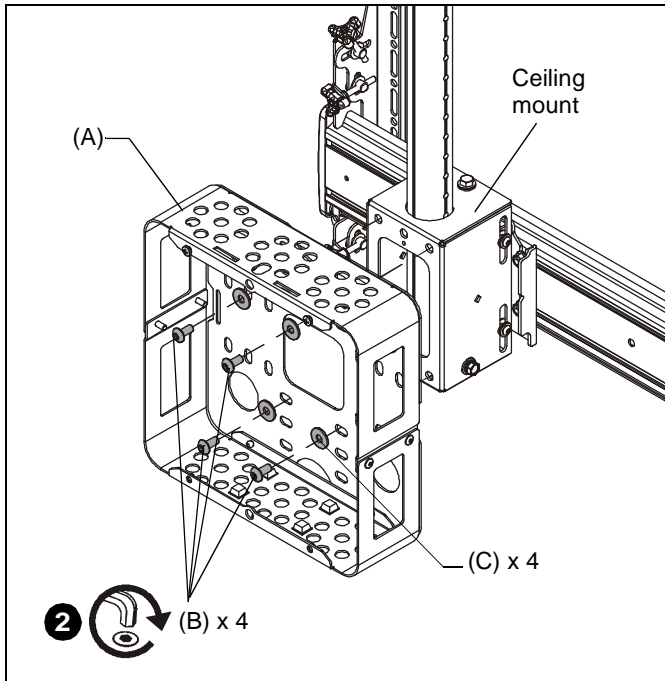

Figure 8
- Attach FCA510/FCA515 (A) to back of ceiling mount using four 5/16-18 x 1/2" buttonhead screws (B) and four 5/16" flat washers (C) installed into back of ceiling mount. (See Figure 8)